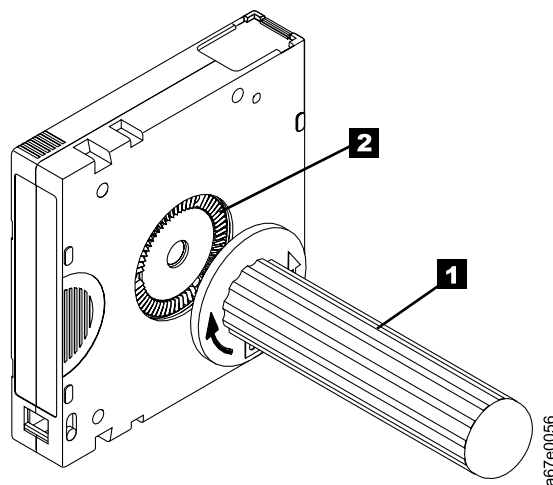

Figure 44. Rewinding the tape into the cartridge
5. To rewind the tape, insert the cartridge manual rewind tool ( **1** in Figure 44) into the cartridge's hub **2** and turn it clockwise until the tape becomes taut.